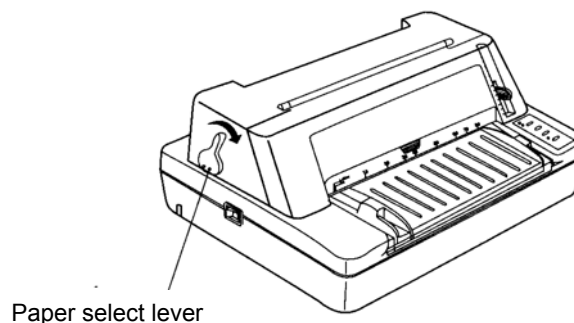

Figure 3-6 Setting the paper select lever
- 2 Set paper select lever toward the front of printer as shown in Figure 3-6.